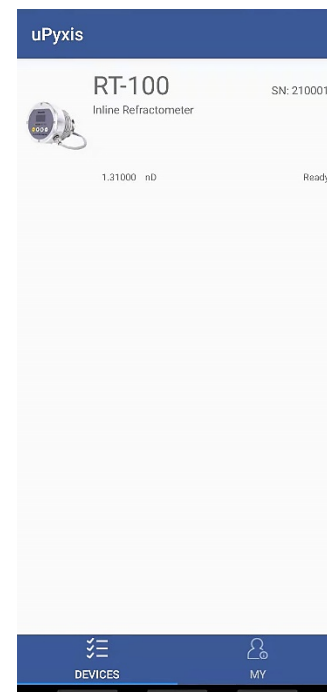

Figure 26. – Discovered RT-100 on uPyxis Mobile APP
4. If the connection is successful, the Prism RT-100 and its Serial Number (S/N) will be displayed (Figure 26).